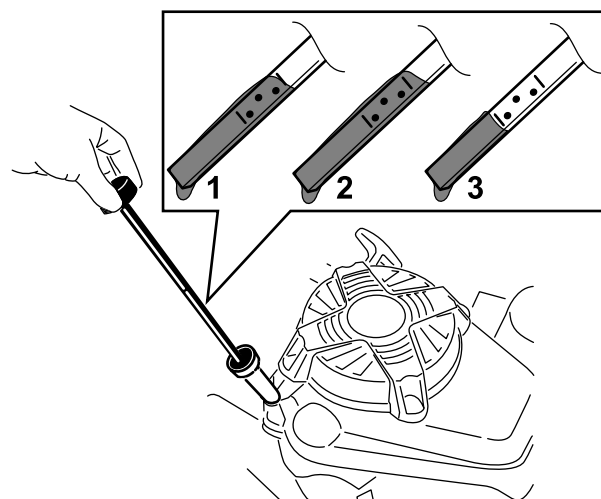

Figure 28
3. Remove the dipstick by rotating the cap counterclockwise and pulling it out (Figure 28).
10. Read the oil level on the dipstick (Figure 28).